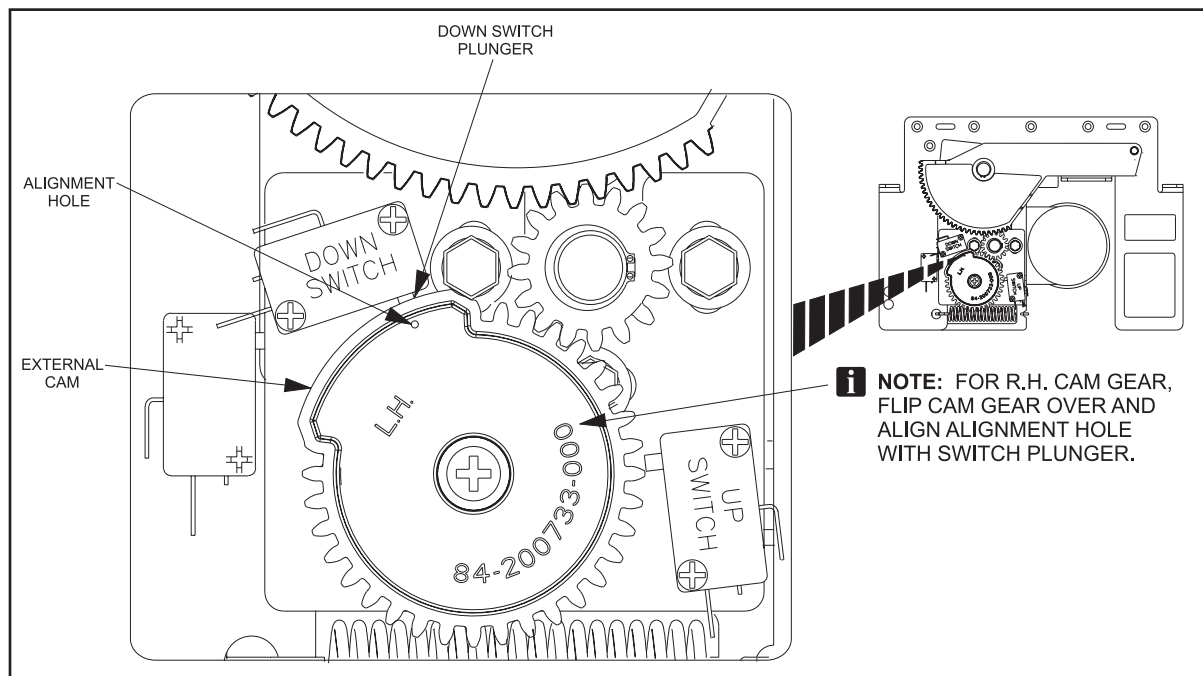

Figure 26. Motor with External Limit Switches
10. With the actuator arm in the fully down horizontal position, install the cam gear, washers and spacer. Position the 1/16" (1.5mm) alignment hole in the cam gear with the "Down Switch" plunger. Refer to *Figures 26 and 27*.